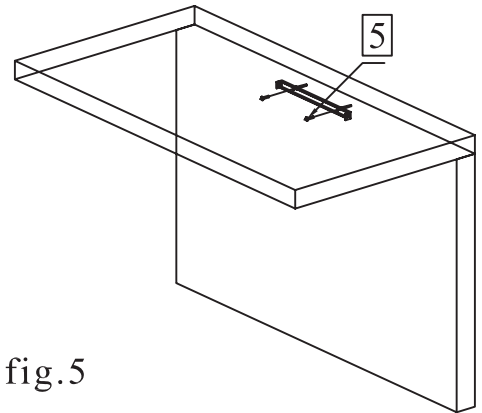

fig.5
**Step six:** Mount the top chimney mounting bracket centering it above the hood. fig.5